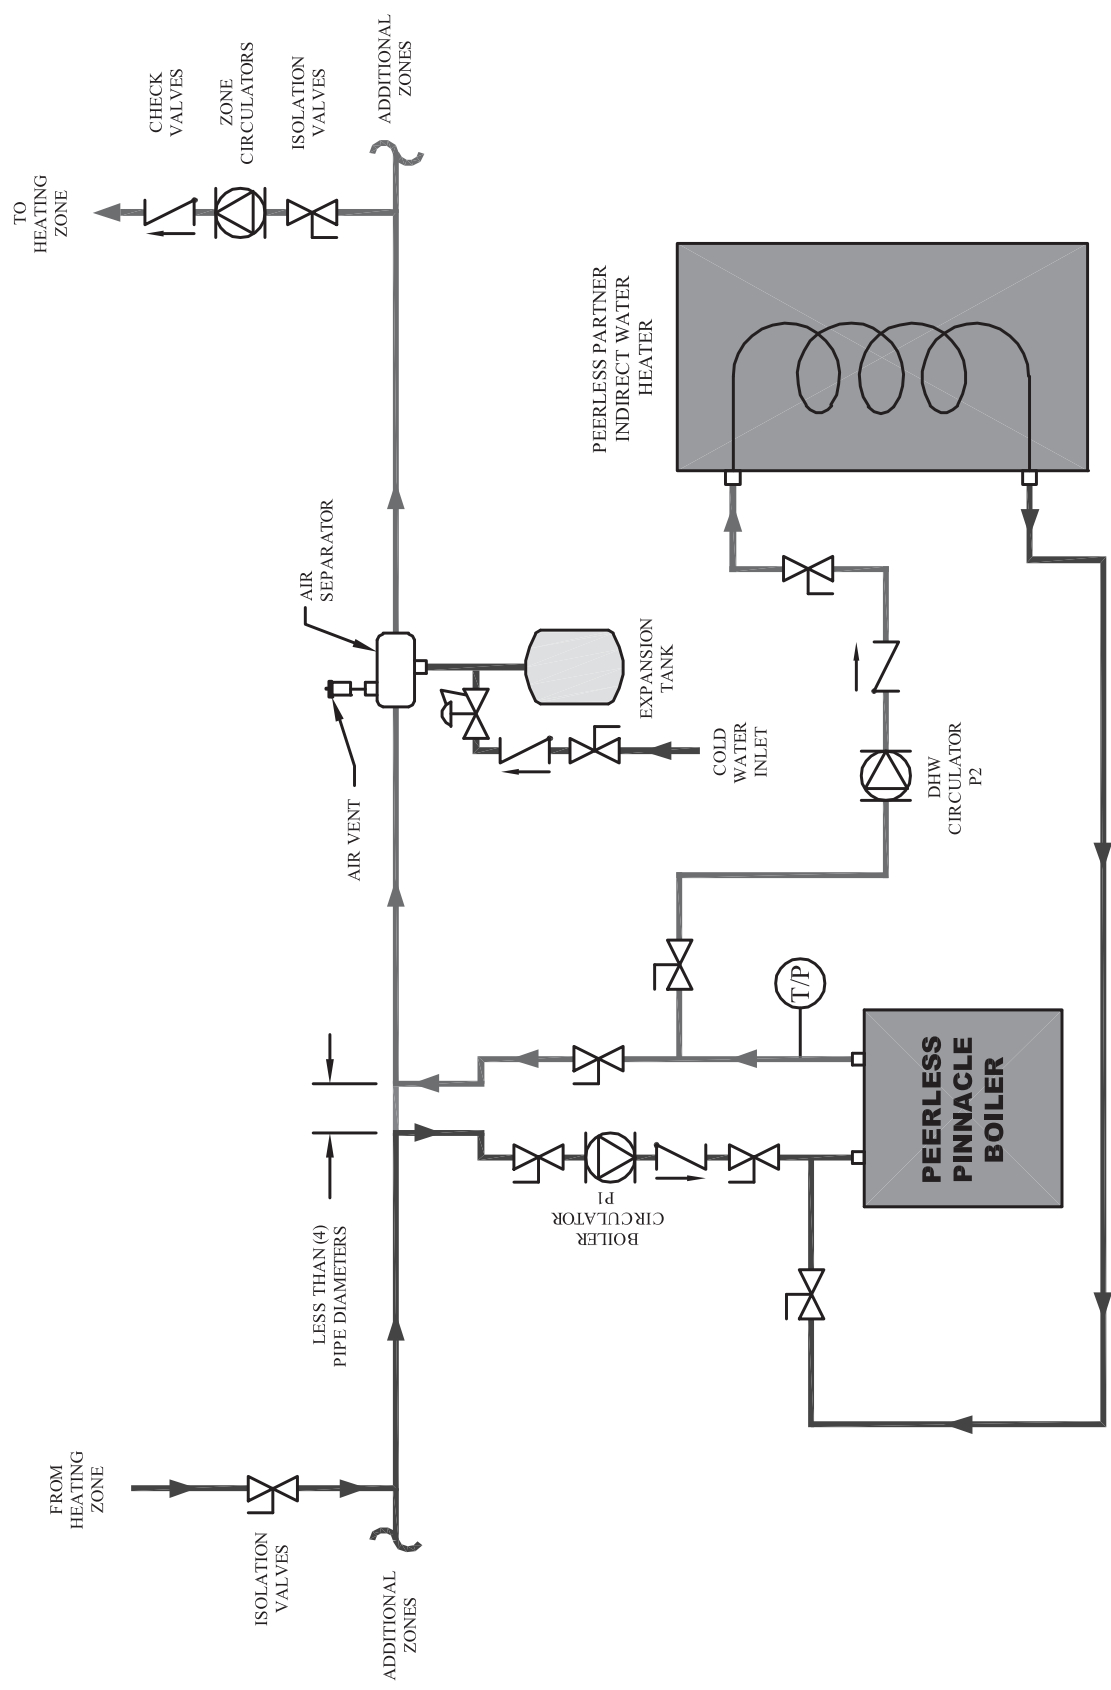

Figure 3.3: One Boiler, Primary/Secondary with one heating zone and a Peerless Partner (Zone Circulators)
1. Figure 3.3 shows a single boiler with one heating zone and a Peerless Partner indirect water heater.